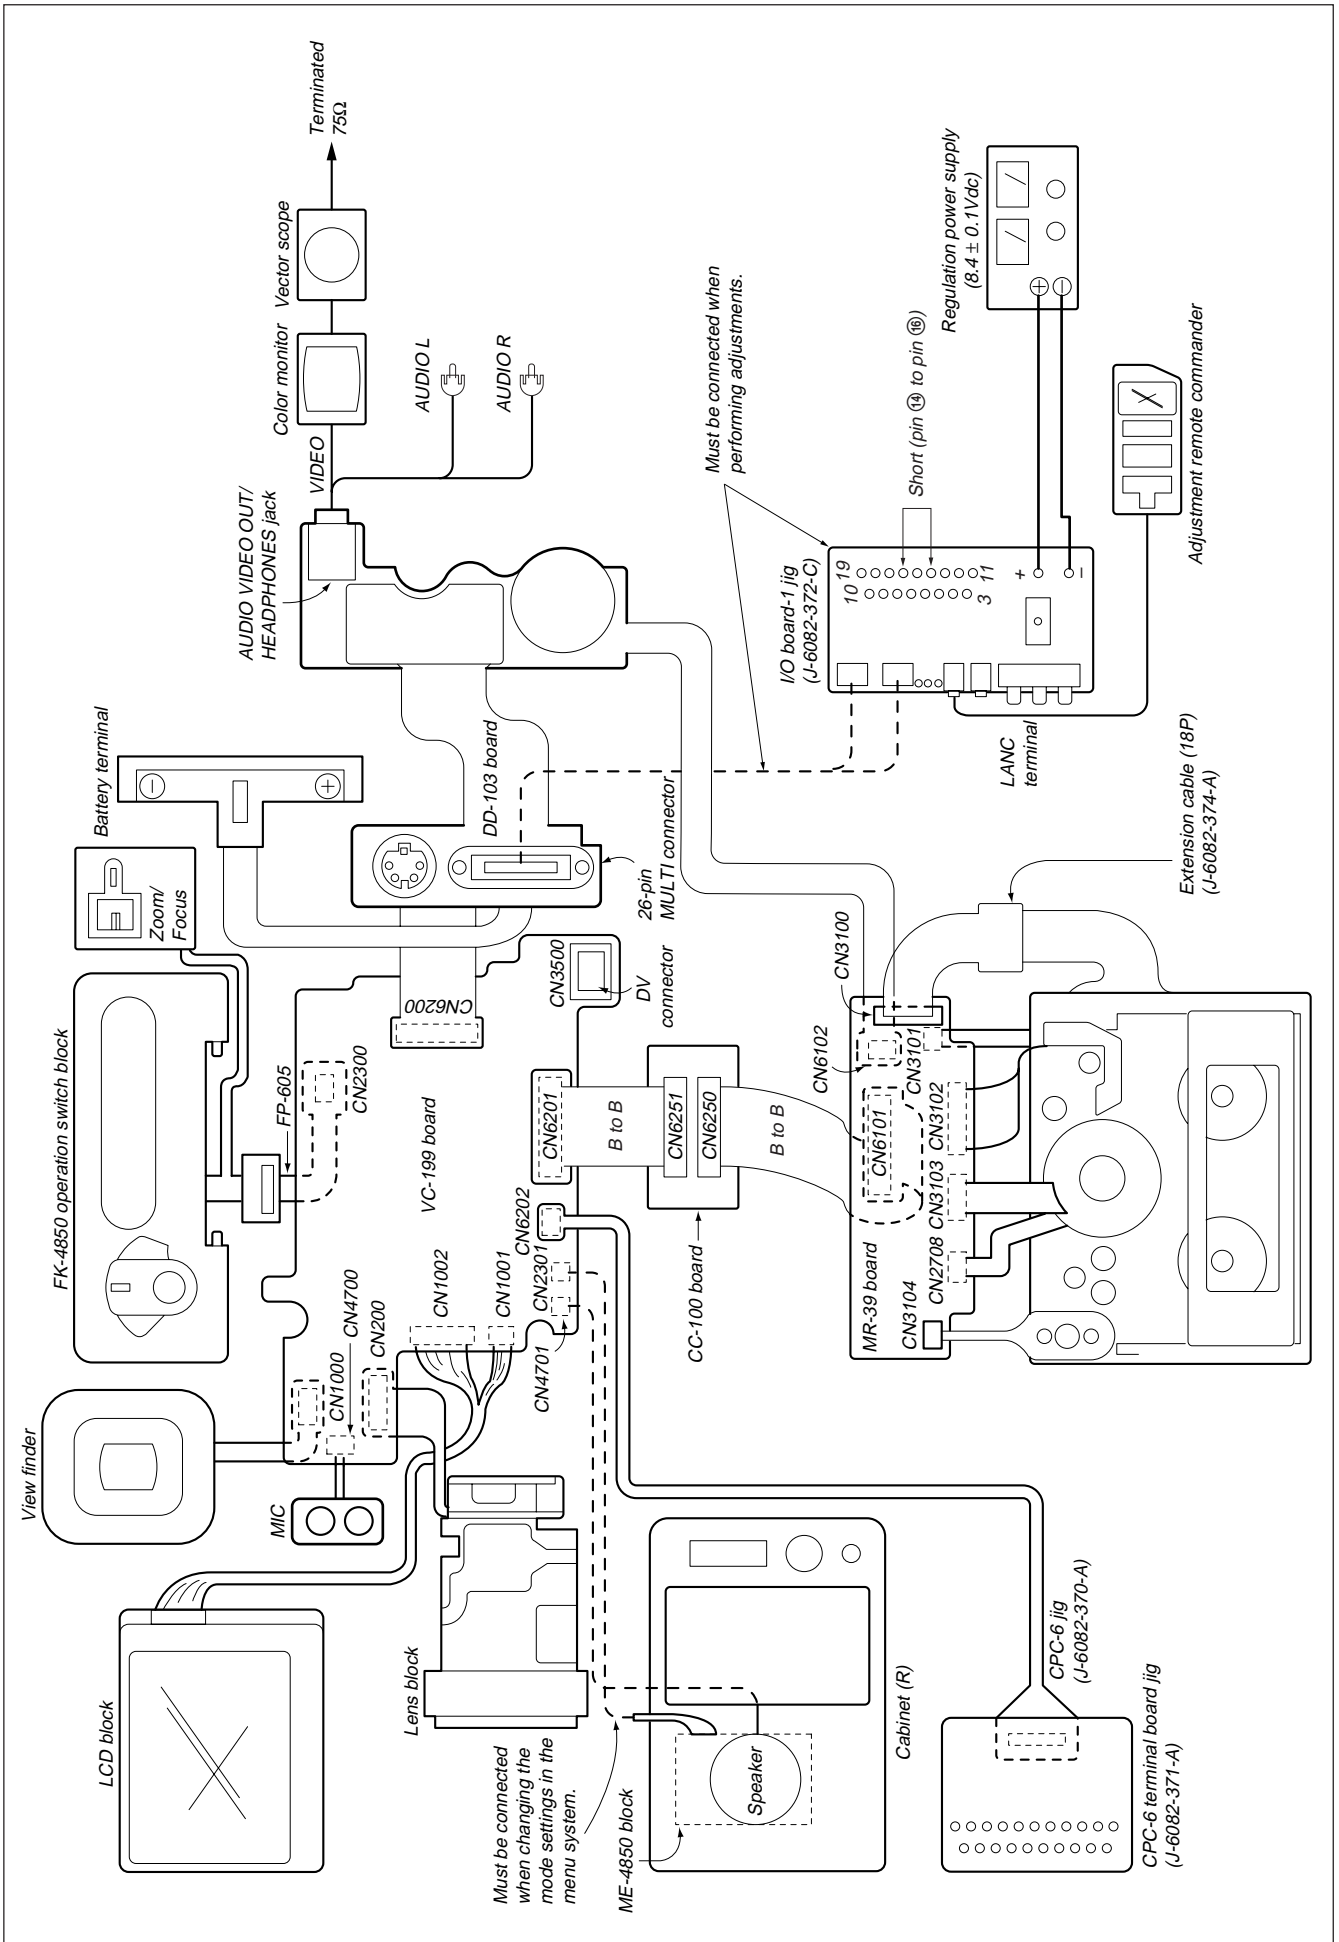

Fig. 5-1-2
- 1) Connect the equipment for adjustments according to Fig. 5-1-2.